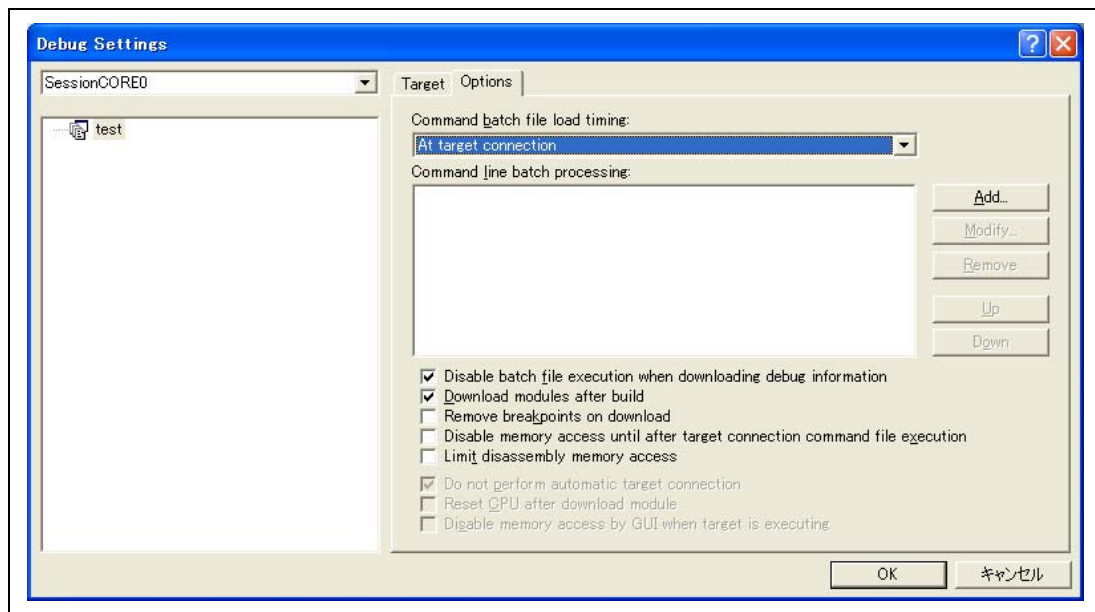

Figure 4.17 [Debug Settings] Dialog Box ([Options] Page)
1. Select [Debug -> Debug Sessions...]. This will open the [Debug Sessions] dialog box (figure 4.17).
1. Select [Debug -> Debug Sessions...] to display the [Debug Sessions] dialog box (figure 4.17).